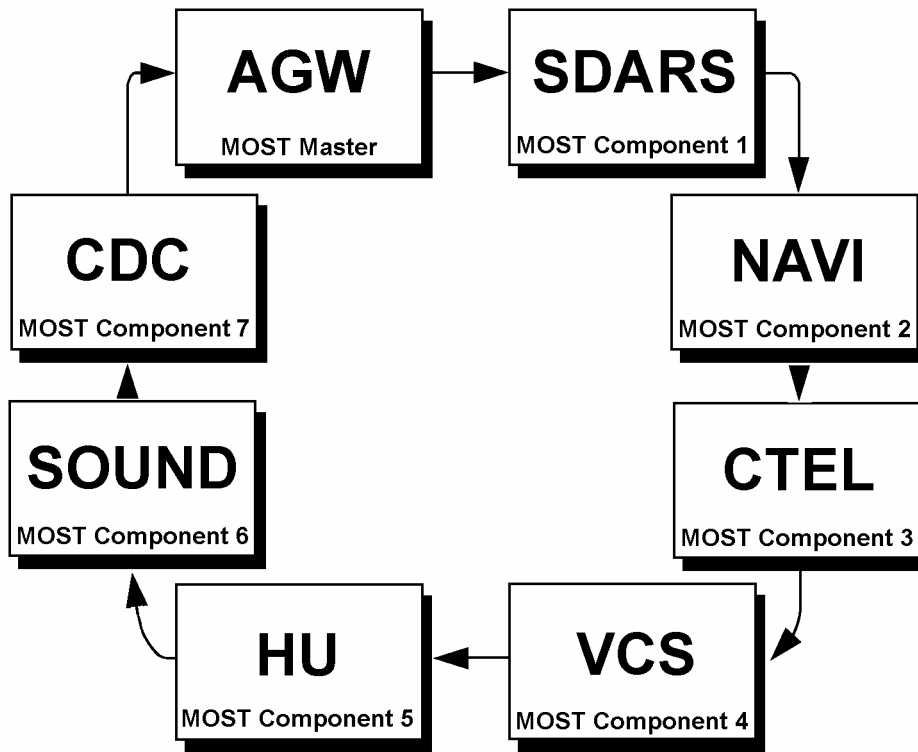

Figure 29
2. Set the MOST ring configuration to match that of Figure 29 via path:
Control units > Information and communication > Audio, video, navigation and telematics > AGW - Audio Gateway > Retrofitting of MOST components > F2: Restart of optical ring > F2: Actual configuration > Verify that “Telecommunications” and “VCS” is listed under Actual Value and configuration of the MOST components matches that of Figure 29 > F2: To continue > F3: Yes, to write the current actual configuration to MOST master > F2: Erase fault memory
Note: The MOST ring configuration in Figure 29 is an example of a configuration including every component. Some installations will not include all the components shown in the example. If a component is not present, connect the preceding component to the component following the one not present.
DO NOT alter the configuration in Figure 29 to match the vehicle configuration. Failure to have the configuration match Figure 29 will result in erroneous system operation and/or intermittent malfunctioning of some or all components.